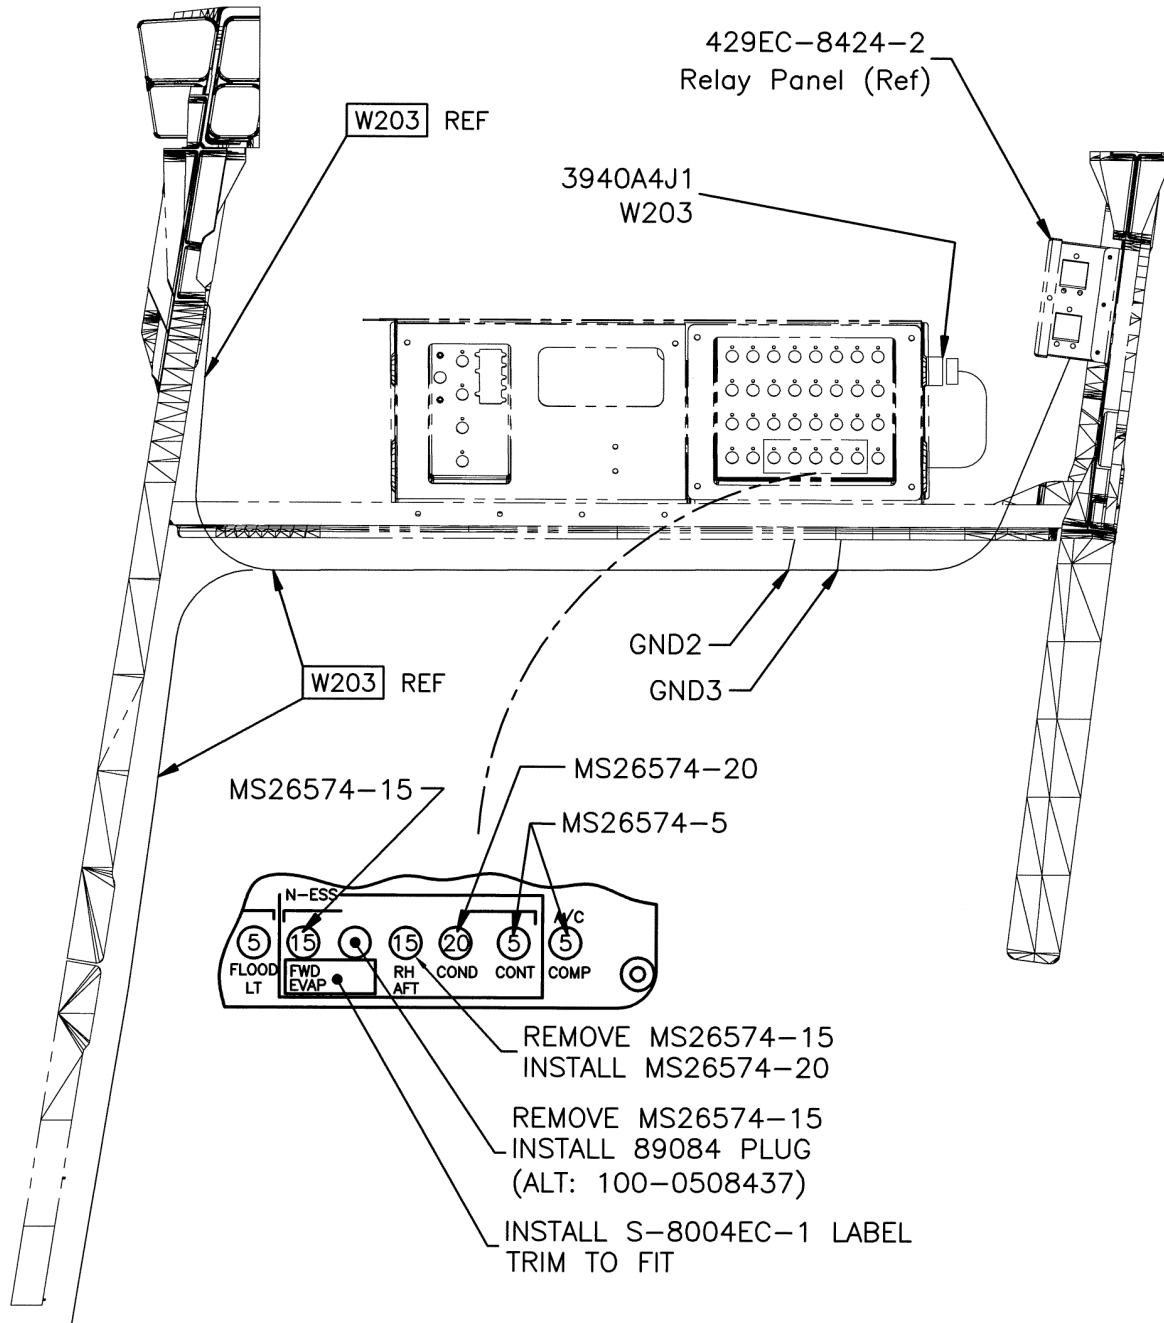

Figure 18: Circuit Breaker Change Details
1. Replace 429EC-8424-1 Relay Panel with 429EC-8424-2 Relay Panel. See Location Reference on Figure 18.
7. Attach S-8004EC-1 sticker label to circuit breaker panel as shown in Figure 18.